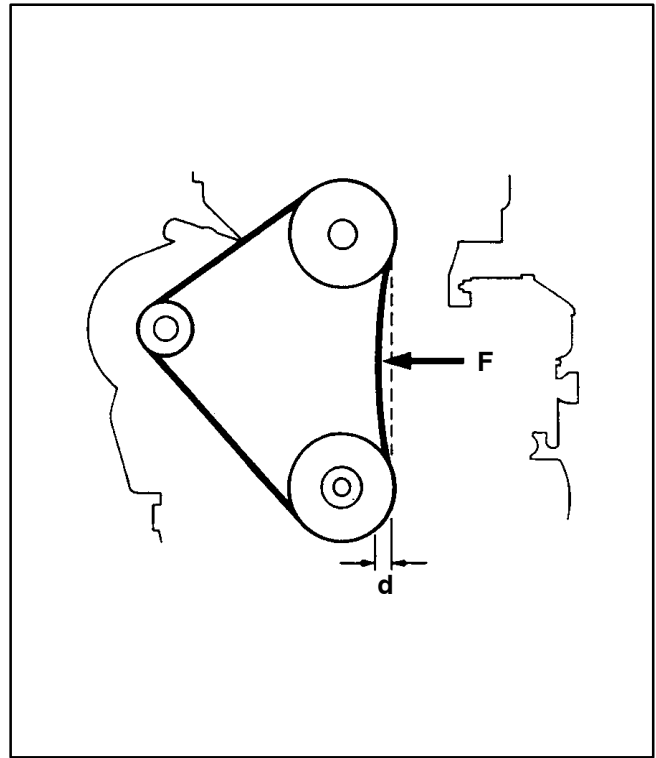

FIGURE 6-4. FAN BELT
To check belt tension, remove the belt guard and push the fan belt midway between the two pulleys shown in Figure 6-4. Use a spring balance to measure force (F) and a straight edge and ruler to measure belt deflection (d). Belt deflection should be 3.5 mm (0.14 in) under a force of 31.0-33.5 N (7.0-7.5 pounds [lbf]) for a new belt and 22.0-24.0 N (5.0-5.4 pounds [lbf]) for a used belt.